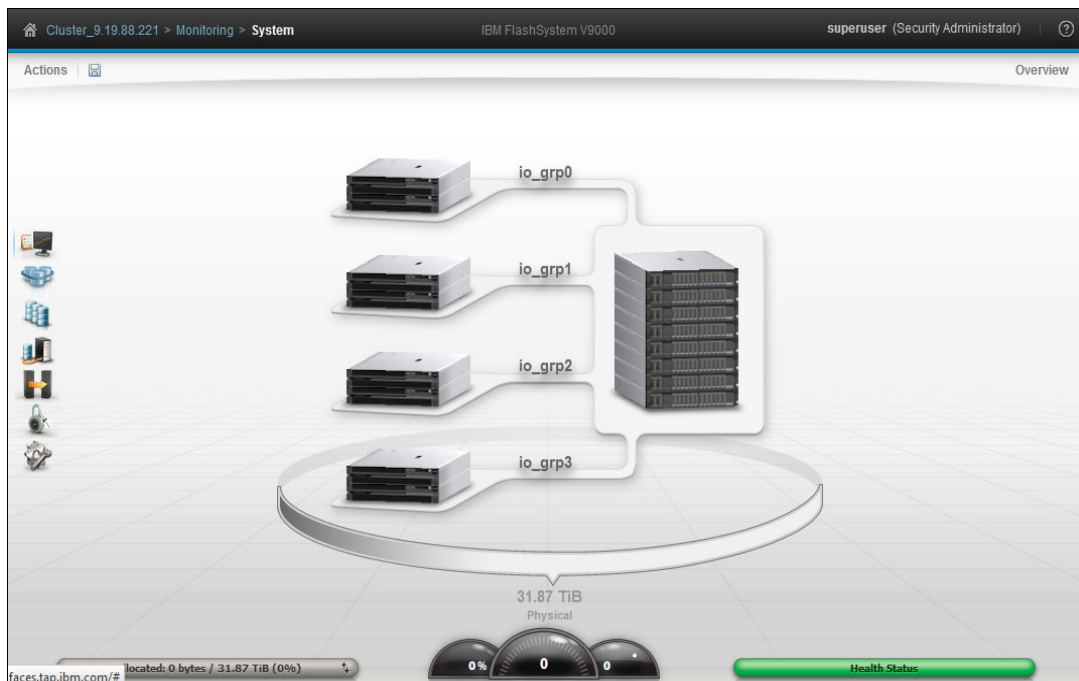

Figure 2-46 System overview window (scale-up and scale-out environment)
- ▶ Figure 2-46 on page 85 is for scalable building block configurations.
Figure 2-46 shows the system overview window for a scale-up and scale-out environment.